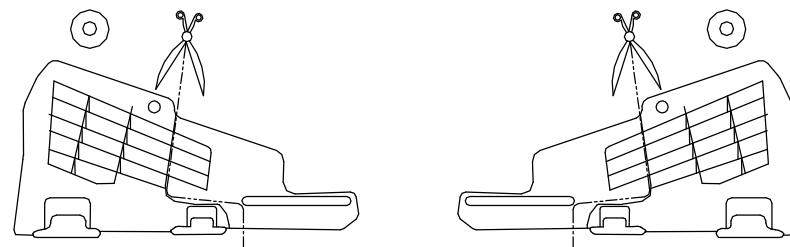

Fig. 2
3. Disassemble plastic covers and cut out fragments according to figure 2.
4. Put side brackets (pos. 4 and 5) to chassis members and fix loosely through holes A and B (**Espace**) or A and C (**Grand Espace**) using bolts M10x110mm (pos. 11) and M12x70mm (pos. 9). Use distance sleeves pos. 6 and 7 and big washers pos. 14 and 15 as shown on the figure.
5. Between installed side brackets put main bar of the towbar (pos. 1) and fix it using bolts M12x40mm (pos. 10).
6. Fix tow-ball (pos. 2) using bolts M12x75mm (pos. 9) from accessories.
7. Fix the socket plate (pos. 3) as shown on the drawing.